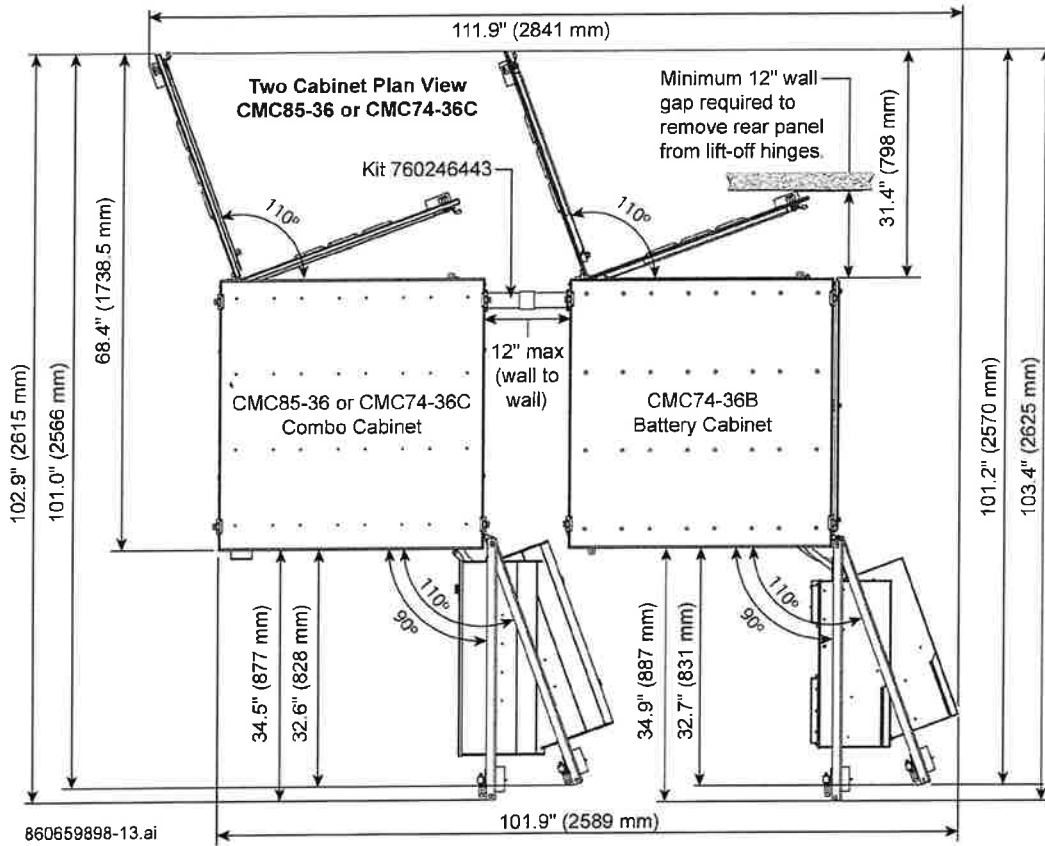

Figure 13. Top View, CMC85-36 or CMC74-36C Cabinet with CMC74-36B Battery Cabinet
- Check and verify cabinet alignment before and after CMC74-36B installation to equipment cabinet prior to kit 760246443 installation, see Figure 12 and Figure 13 below.